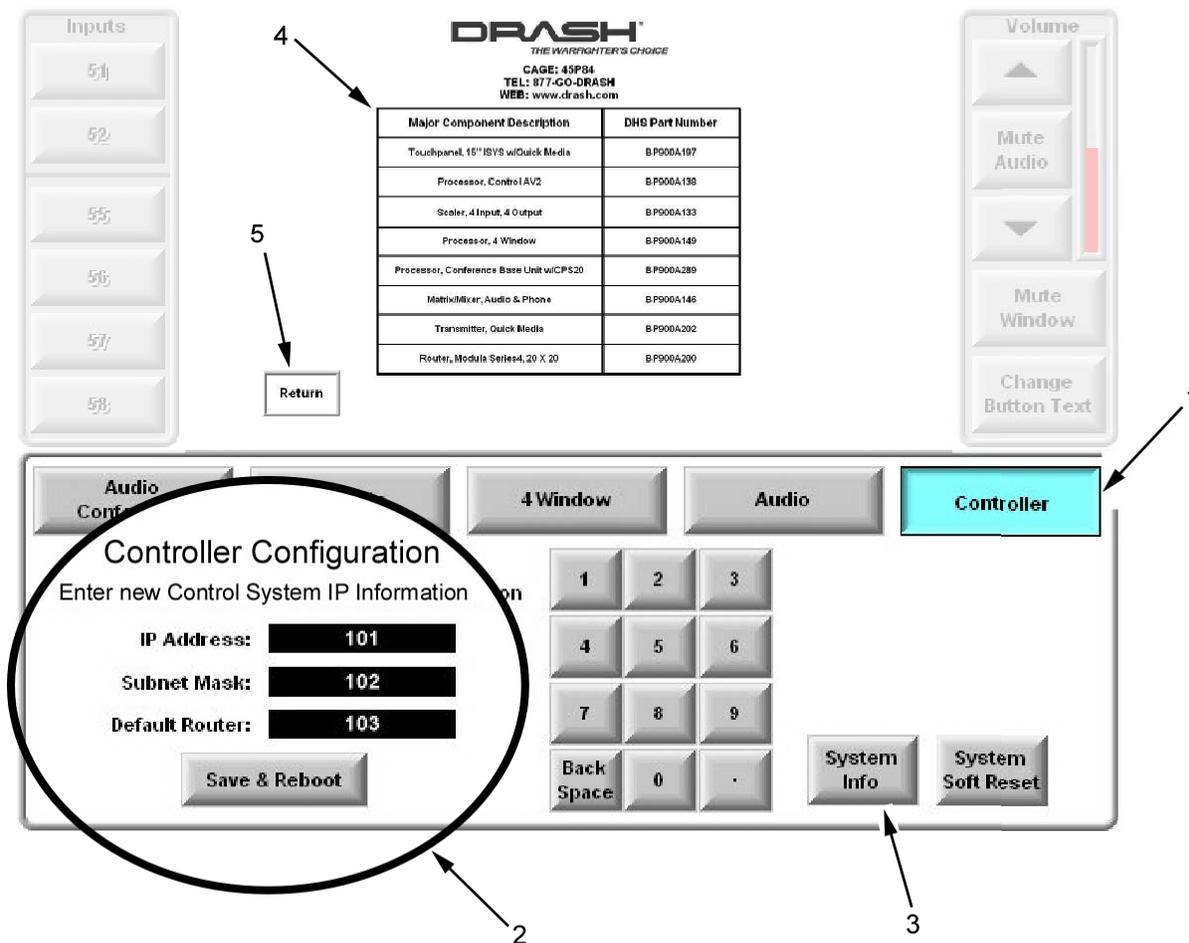

Figure 13. AVCS Controller Panel and System Information.
1. Select the **Controller** button (Figure 13, Item 1) to access the Controller Panel.
When the Controller Panel appears, the current Controller Configuration information (Figure 13, Item 2) is displayed in the lower left corner of the AVCS window.
2. Select the **System Info** button (Figure 13, Item 3) to display the system information. Observe the System Info displayed in the center of the main display (Figure 13, Item 4). Note these numbers match the labels on the front left side of each piece of equipment.
3. Select the **Return** button (Figure 13, Item 5) to exit System Info and return to the Controller Page.